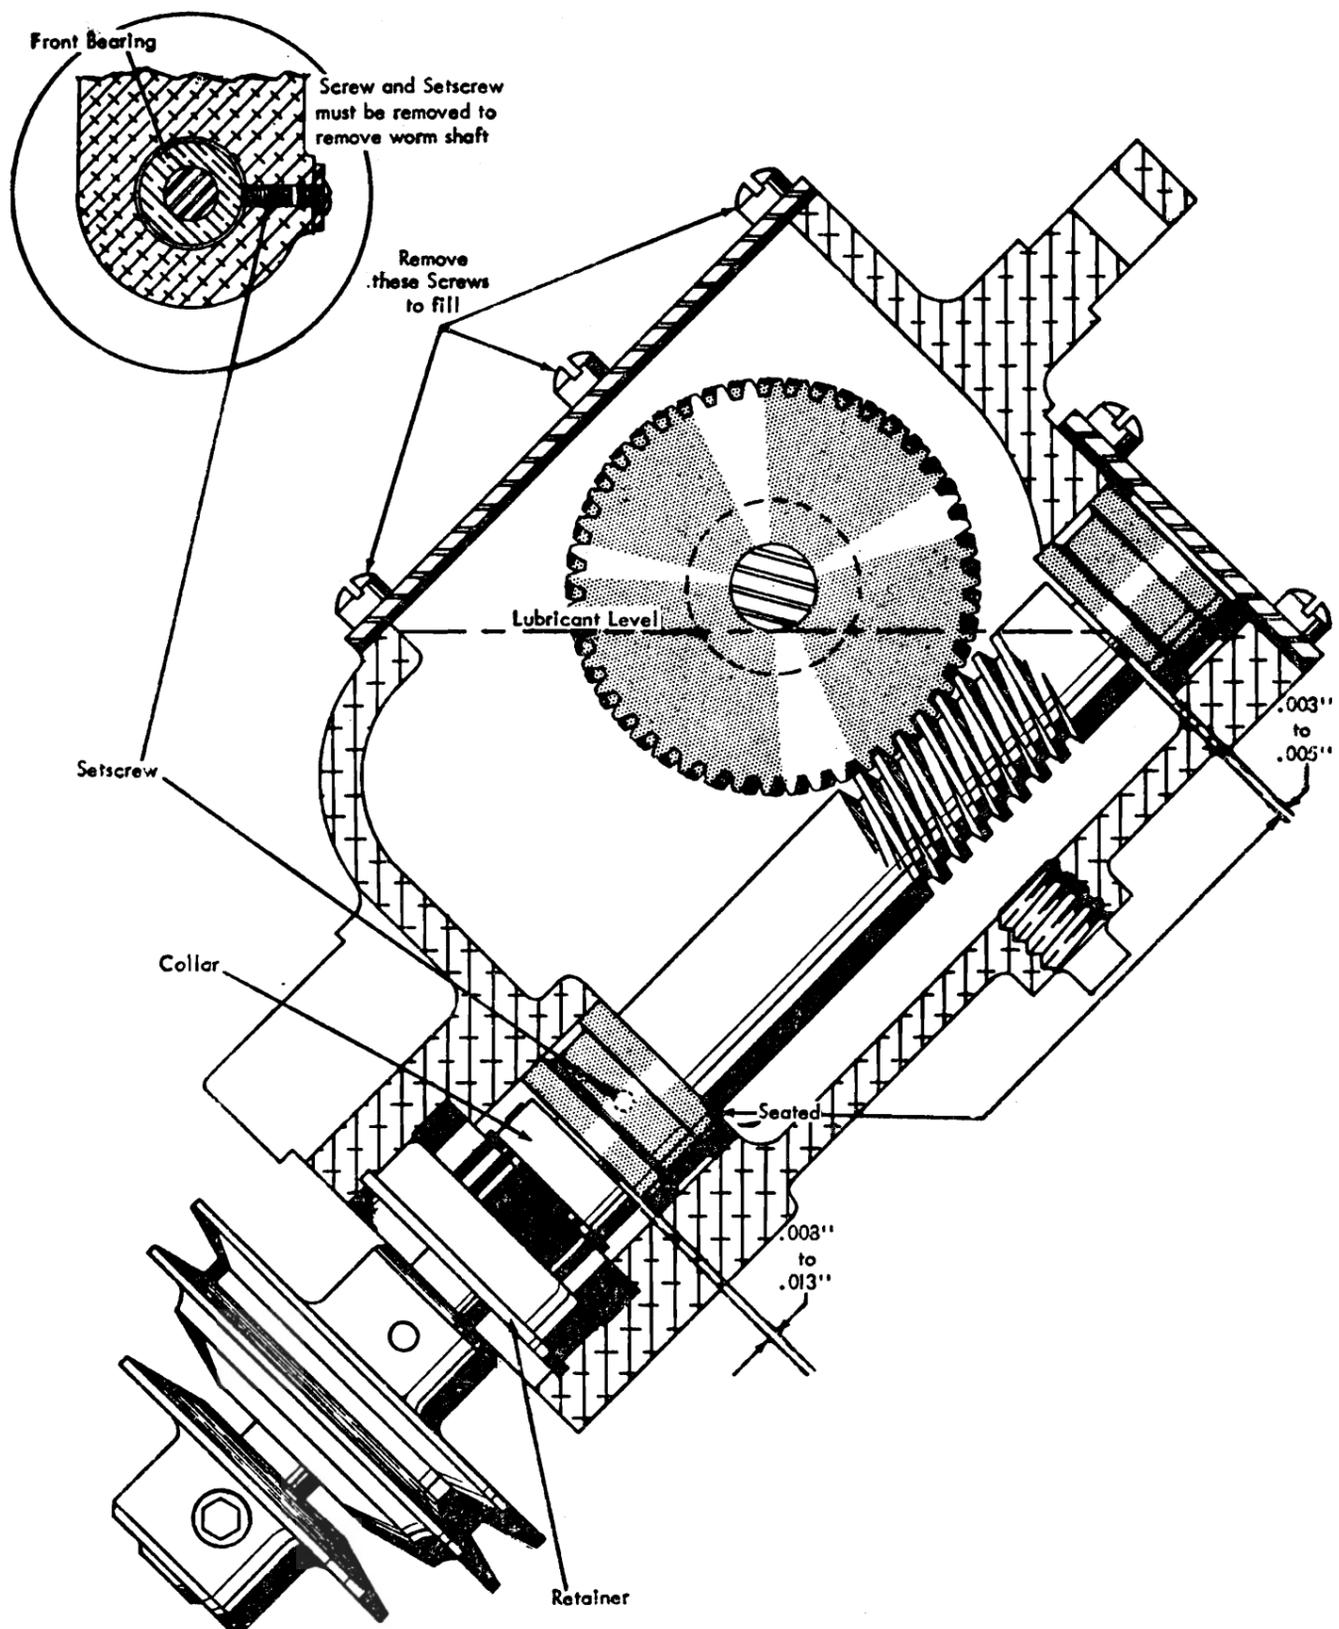

Figure 12. Reduction Drive Adjustment
2. Keeping the outer bearing against the worm gear shoulder, insert the shaft in the housing and lock the front bearing in place with  $.003''$  to  $.005''$  end shake for the worm shaft (Figure 12). No timing is necessary to install the housing.